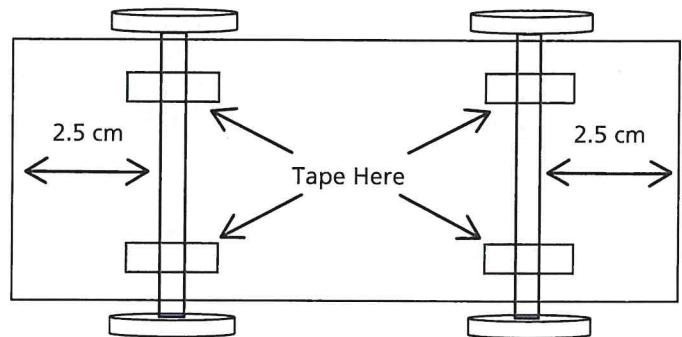

Figure 2: Axle Attachment to the Body
3. Attach the wheel and axle systems to the car body with tape (Figure 2).